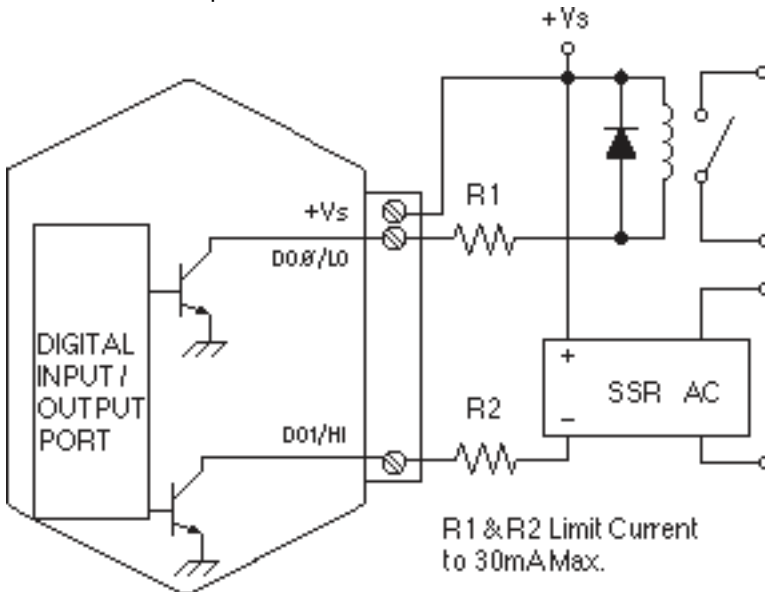

Figure 6.1 Digital Outputs Used With Relays
A digital output consists of an open-collector transistor controlled by the host, using the Digital Output (DO) command (See Figure 6.1). The number of digital outputs implemented depends on the specific D1000 model number. Most sensor modules contain two digital outputs and the D1701/2 has eight digital outputs. The open-collector configuration is used to provide maximum versatility in interfacing to solid state relays (SSR's) or to standard logic levels such as TTL or CMOS. Each digital output can sink up to 30mA and can withstand up to 30V. Power in the transistor must be limited to 300mW. The emitter of each transistor is tied to the GND terminal on the input connector.
A typical connection of a digital I/O output is shown in Figure 6.1. In this case, a solid state relay is controlled by the D1000 module. The SSR can then be used to control AC power to alarms, heaters, pumps, etc. A typical